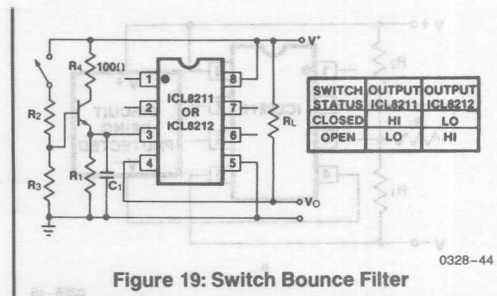

Figure 19: Switch Bounce Filter
i) **Switch Bounce Filter (Figure 19)**
Single pole single throw (SPST) switches are less costly and more available than single pole double throw (SPDT) switches. SPST switches range from push button and slide types to calculator keyboards. A major problem with the use of switches is the mechanical bounce of the electrical contacts on closure. Contact bounce times can range from a fraction of a millisecond to several tens of milliseconds depending upon the switch type. During this contact bounce time the switch may make and break contact several times. The circuit shown in Figure 19 provides a rapid charge up of C_1 to close to the positive supply voltage (V^+) on a switch closure and a corresponding slow discharge of C_1 on a switch break. By proportioning the time constant of $R_1 C_1$ to approximately the manufacturer's bounce time the output as terminal #4 of the ICL8211/8212 will be a single transition of state per desired switch closure.